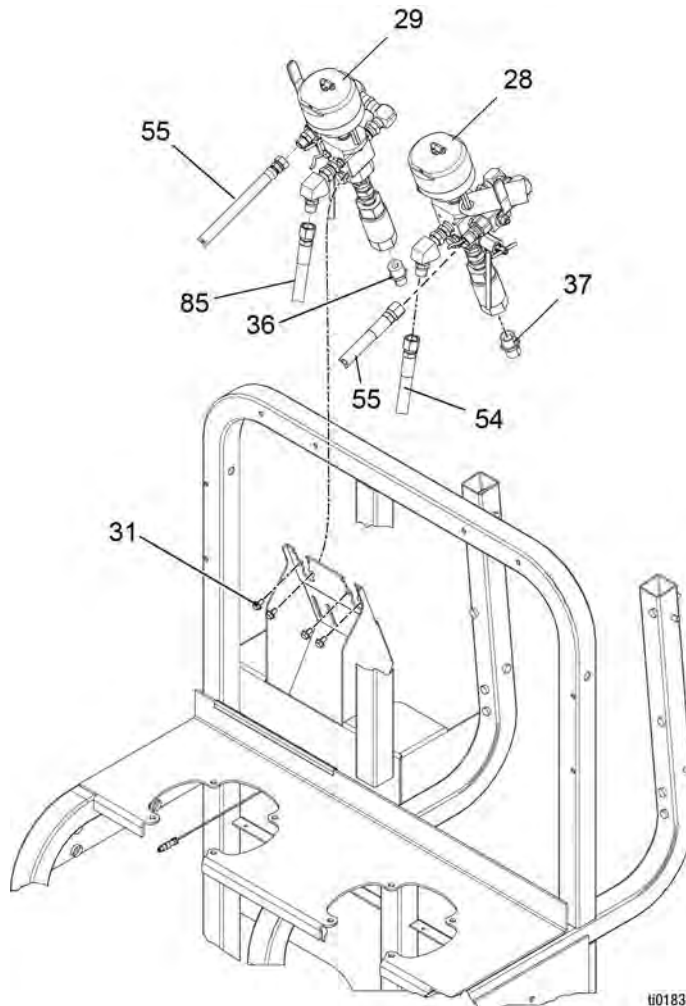

FIG. 6
3. Disconnect all fluid lines from dosing valves (28 or 29). See FIG. 6.
5. Disconnect pressure sensor (831) from FCM (507). See **Electrical Schematics**, page 46.
6. Remove two screws (31) securing dosing valve to bracket.